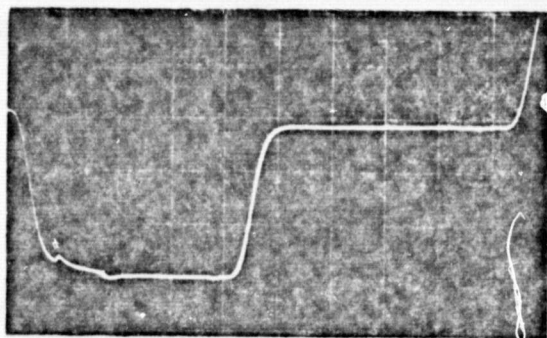

Figure 5-9. A2TJ1 V-Clamp (External Sync Clamp)
##### 5.3.1.2.3.1. Clamp Delay Adjustment (refer to Figure 5-9)
3. Adjust A4-R12 (CLAMP DLY) so that the leading edge of the clamp pulse is approximately 1  $\mu$ s after the beginning of the horizontal sync pulse (as shown in Figure 5-9).